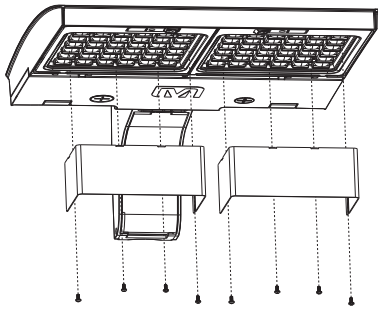

FIG. 1
1. For front visor applications, align the visor(s) with the screw holes. (See Fig. 1)